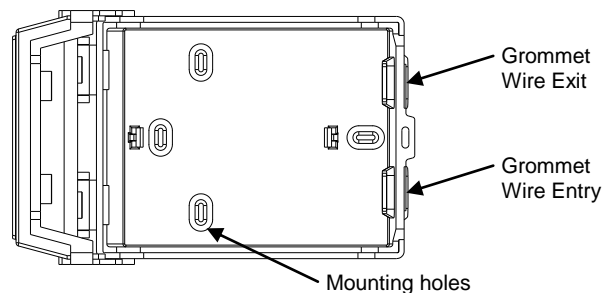

Figure 2
5. The mounting holes are covered with a thin film of plastic, easily punched out, to maintain the environmental integrity of the enclosure (See Figure 2).